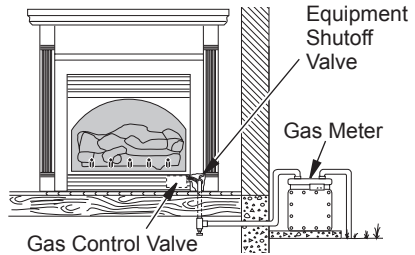

Figure 19 - Checking Gas Joints for Natural Gas
3. Check all joints from gas meter to equipment shutoff valve for natural gas or propane/LP supply to equipment shutoff valve for propane/LP (see Figures 19 and 20). Apply noncorrosive leak detection fluid to all joints. Bubbles forming show a leak.
4. Check all joints from equipment shutoff valve to gas control valve (see Figures 19 or 20, page 16). Apply noncorrosive leak detection fluid to all joints. Bubbles forming show a leak.